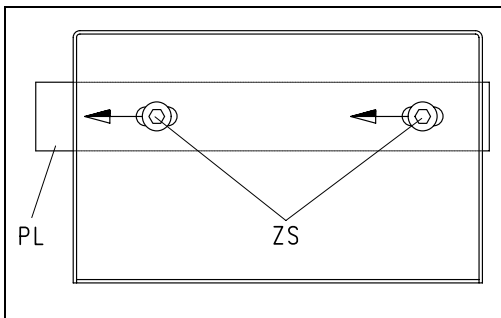

Fig.9
- Loosen but do not remove the two cheesehead screws **ZS** with an Allan key AF4 **Fig.9**